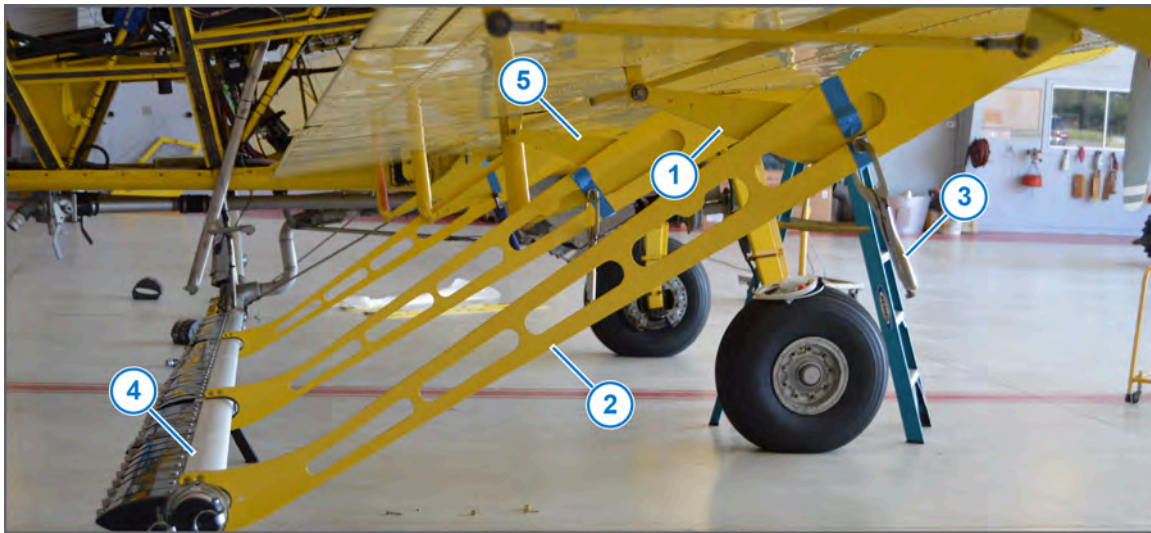

Figure 6: Outermost and Middle Boom Hanger Positions
6. Go to the outermost boom hanger position (Figure 6, Item 1) and temporarily attach the SwathPRO™ boom hanger (Figure 6, Item 2) in the same position as the factory boom hanger using clamps (Figure 6, Item 3).
See Figure 6
7. Slide the boom (Figure 6, Item 4) into the SwathPRO™ boom hanger.
9. After the outermost boom hanger is clamped into place, go to the location of the middle boom hanger (Figure 6, Item 5).